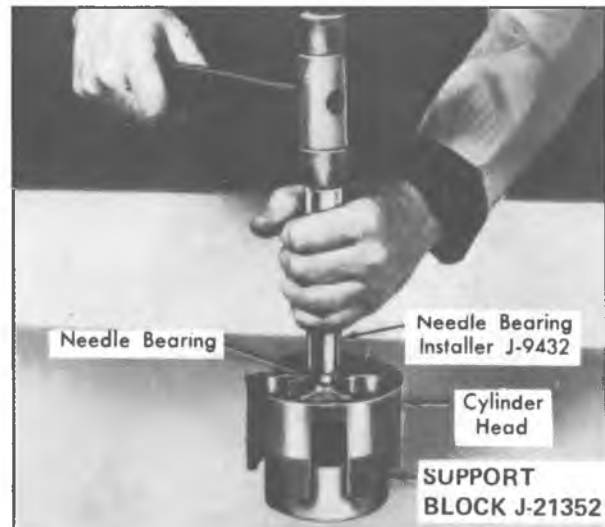

Fig. 35--Installing Needle Bearing
16. Needle bearings may be removed if necessary by driving them out with special Thin-Wall Socket J-9399. Insert socket in hub end (inner side) of cylinder head and drive bearing out. To install needle bearing, place cylinder half on Support Block J-21352, and insert bearing in end of cylinder head with bearing **identification marks UP**. Use Needle Bearing Installer J-9432 and drive bearing into cylinder head (Fig. 35), until tool bottoms on the cylinder face.